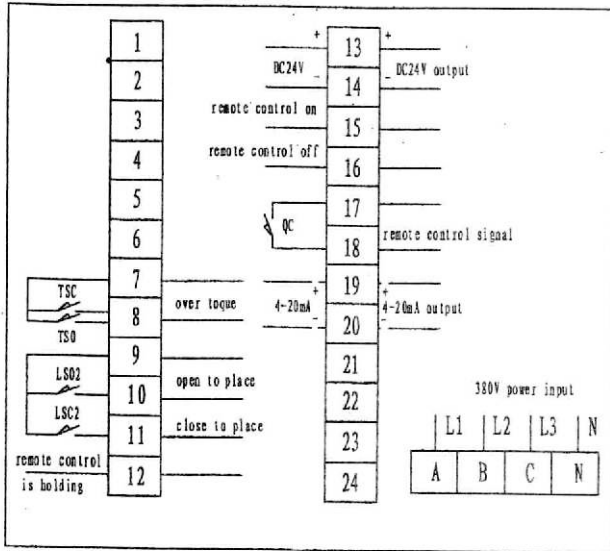

Figure 17 Terminal drawing for integral switching type electric actuator
5.9.3 Refer to Figure 17,18,19,20 for the terminal connection diagram of Integral type, integral explosion-proof type, integral regulation type, integral regulation explosion-proof type separately.